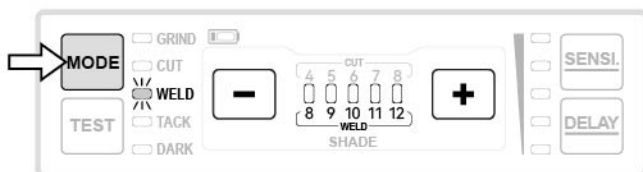

fig.5
**Weld Mode - Shade 8 ~ 12 (See fig.5)**